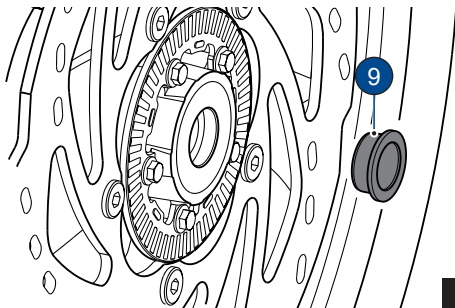

Fig. 75
- Take out the spacer bush (9) from the left side of the wheel hub (**ref. Fig. 75**).
- Fix the spacer bush (9) on the left side of wheel hub (**ref. Fig. 75**).